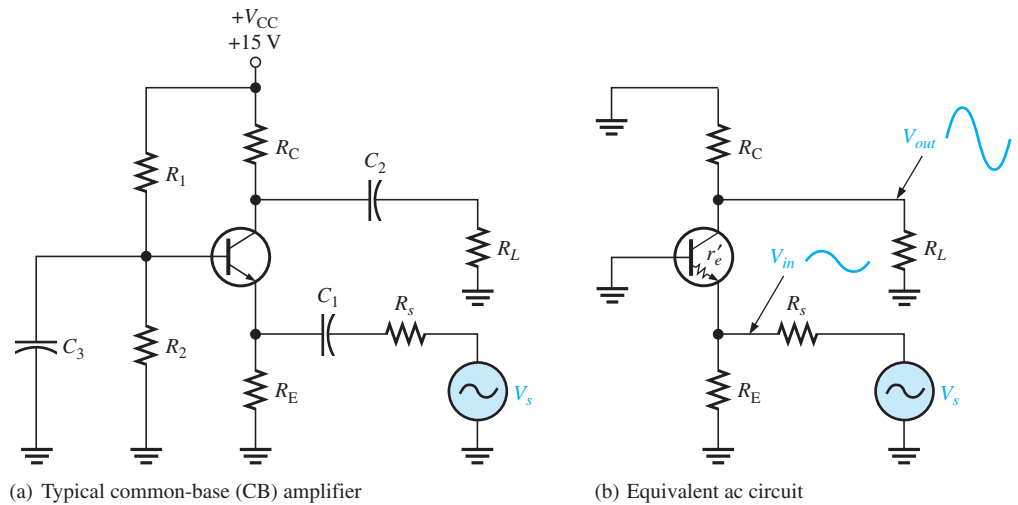

FIGURE 3–42
A typical **common-base (CB)** amplifier using voltage-divider bias is shown in Figure 3–42(a). The base is at signal (ac) ground due to C_3 , and the input signal is applied to the emitter. The output is coupled through C_2 from the collector to the load resistor. Figure 3–42(b) shows the equivalent ac circuit. Capacitors and the dc source have been replaced with shorts. This causes the bias resistors to be shorted in the equivalent circuit. The basic difference between this circuit and the common-emitter circuit is how the signal is fed to the amplifier.
VOLTAGE GAIN WITH A SWAMPING RESISTOR One problem with the basic CB amplifier in Figure 3–42 is that it tends to distort larger signals because the only resistance on the input side is r'_e , which depends, to some extent, on the signal amplitude. A large signal causes changes in r'_e and therefore the gain. Figure 3–43 shows a modification of the basic amplifier with typical values for a small-signal transistor shown. The modification is the addition of a small-value swamping resistor, R_{E1} , in series with r'_e . As in the case of a CE amplifier, this additional fixed resistor produces greater gain stability
Find the total input resistance and the voltage gain for the CB amplifier in Figure 3–43.